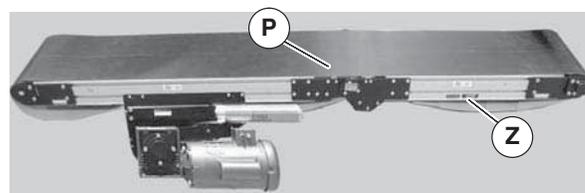

Figure 9
- Slide belt (Figure 9, item P) over assembled conveyor sections (Z).